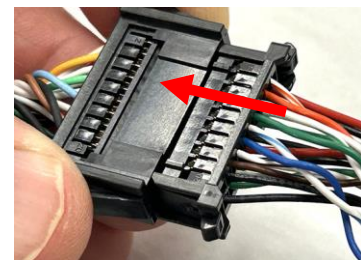

Figure 25
24. Attach 130296322 20-pin harness with the two (2) USB and ethernet connector (Figure 24) to the 20-pin connector of the controller (see Figure 25).